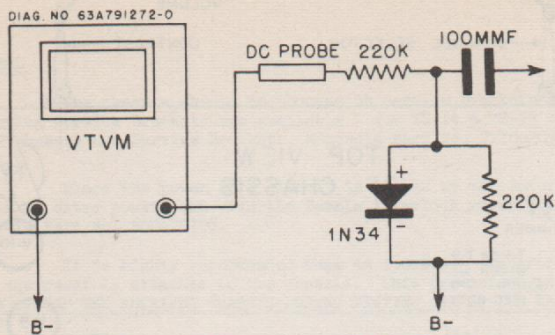

FIGURE 5. ELECTRONIC VOLTMETER CONNECTIONS
2. Connect the voltmeter and germanium crystal rectifier, as shown in Figure 5, between the cathode of the picture tube (yellow lead) and B-. Use the lowest voltage scale on the meter.